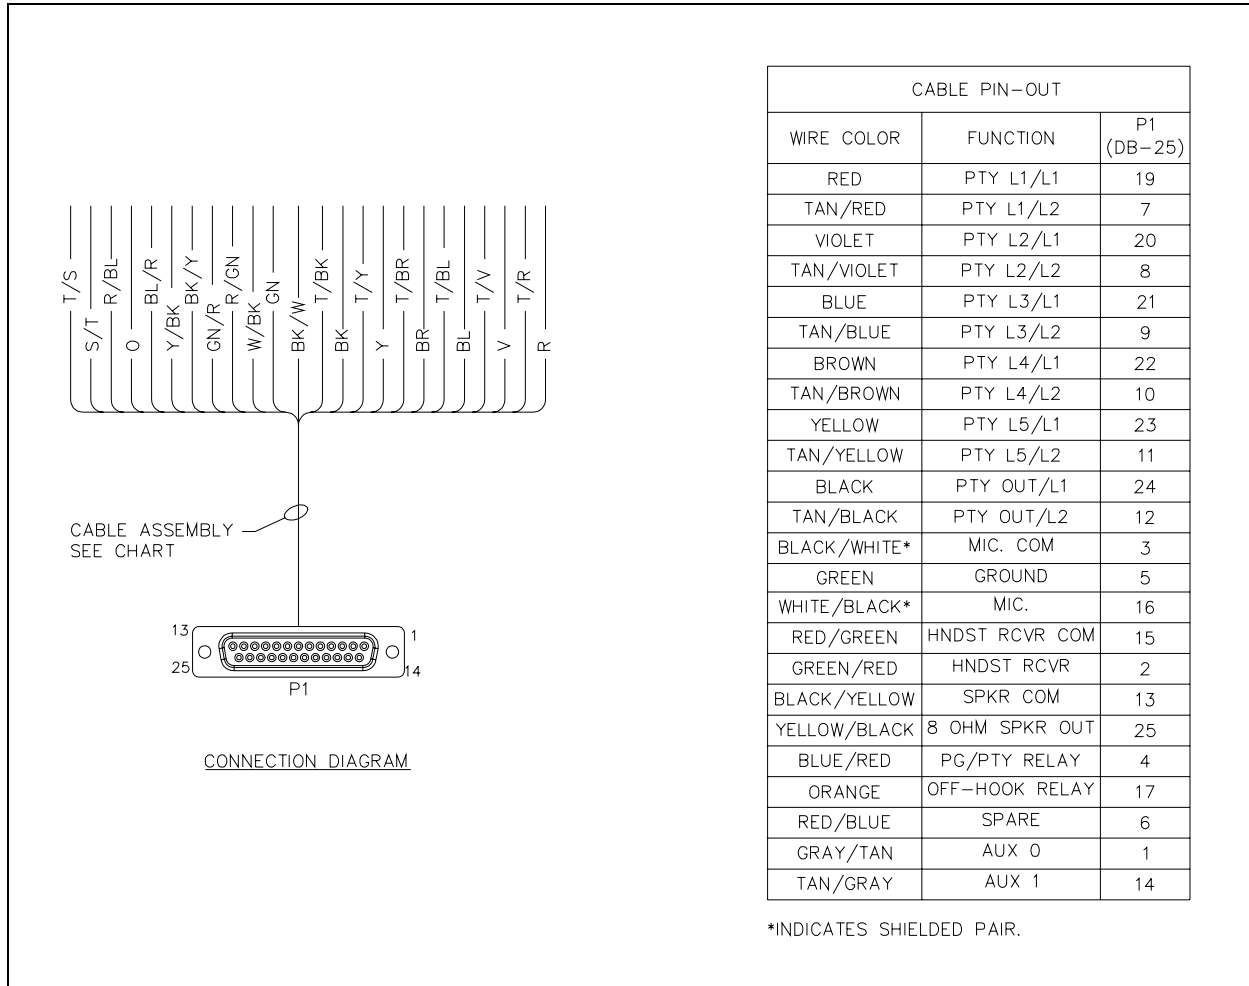

Figure 2. Wire Color Terminations
3. Install the supplied spare DB25 connector onto the stripped and tinned wires side of the cable assembly. Place the stripped wire ends into the solder cups in a manner that allows the exposed wire to bottom out against the base of the solder cup. Solder all wires from the cable to the DB25 connector. See Figure 2 for wire color terminations.